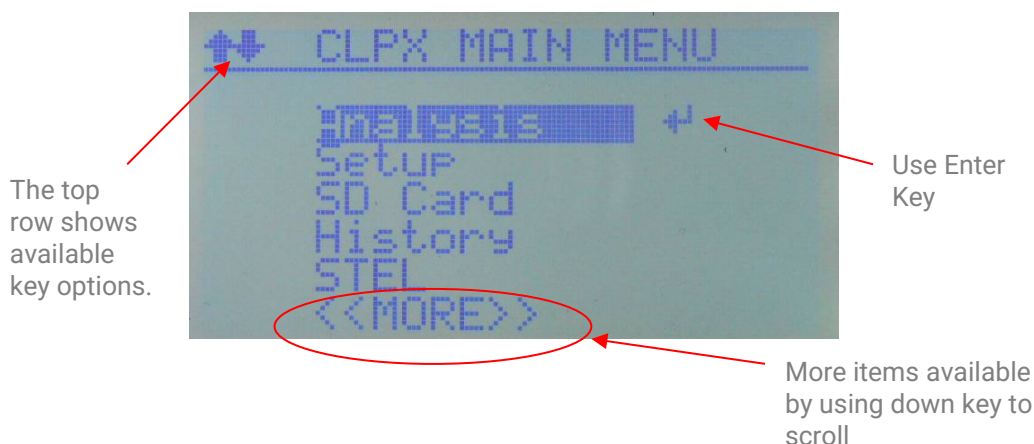

Figure 5.1
The CLPX is controlled using the 5-key keypad located under the display. All the display screens are accessed through a simple menu system as shown in figure 5.1
- B. Menus – Use the UP/DOWN keys as shown in Figure 5.1 to navigate through the menu items then use the ENTER key to select the highlighted item. From any sub-menu (setup, service, etc.) use the LEFT key to return to the previous menu.